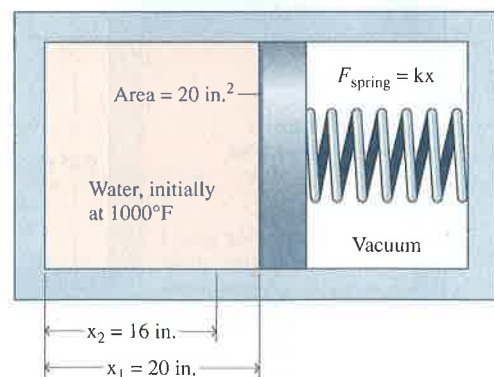

Fig. P3.84
- 3.84** Figure P3.84 shows a piston–cylinder assembly fitted with a spring. The cylinder contains water, initially at 1000°F , and the spring is in a vacuum. The piston face, which has an area of 20 in.², is initially at $x_1 = 20$ in. The water is cooled until the piston face is at $x_2 = 16$ in. The force exerted by the